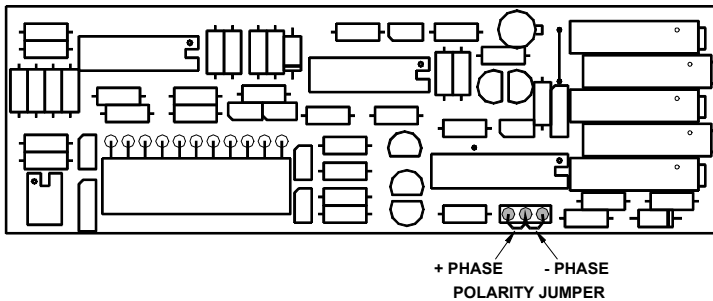

Figure 4 - Model DM Signal Conditioner Card
3. Locate and change the POLARITY jumper. Refer to Figure 4.